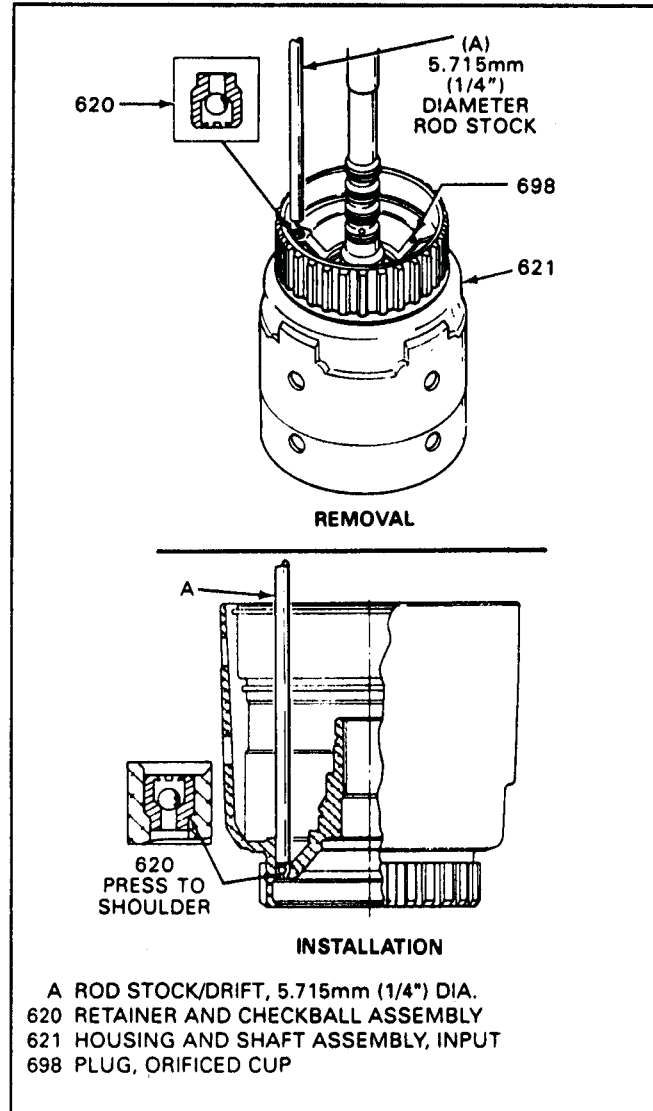

Figure 86
1. If replacement of the ball capsule in the input housing is necessary, use Figure 86 for replacement procedures.